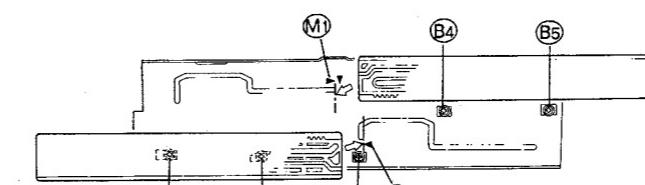
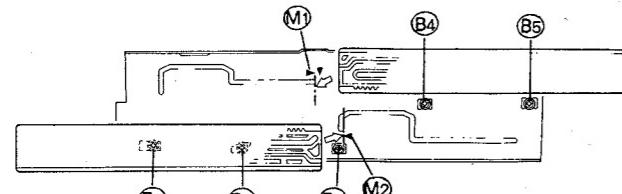
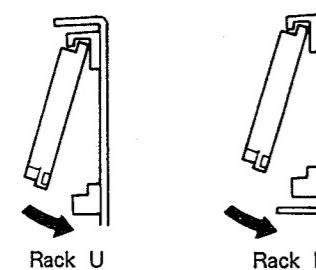

Fig. 3-2
Fig. 3-2
Fig. 3-3
2. As shown in Fig. 3-2, attach the racks U · L so that the tips are at the tip positions  $\textcircled{M}_1$  and  $\textcircled{M}_2$  of each  $\blacktriangleright$  mark stucked on the chassis. Insert the upper portion of the rack first and attach it as arrow shown in Fig. 3-3.
2. As shown in Fig. 3-2, attach the racks U・L so that the tips are at the tip positions  $M_1$  and  $M_2$  of each ▶ mark stucked on the chassis. Insert the upper portion of the rack first and attach it as arrow shown in Fig. 3-3.